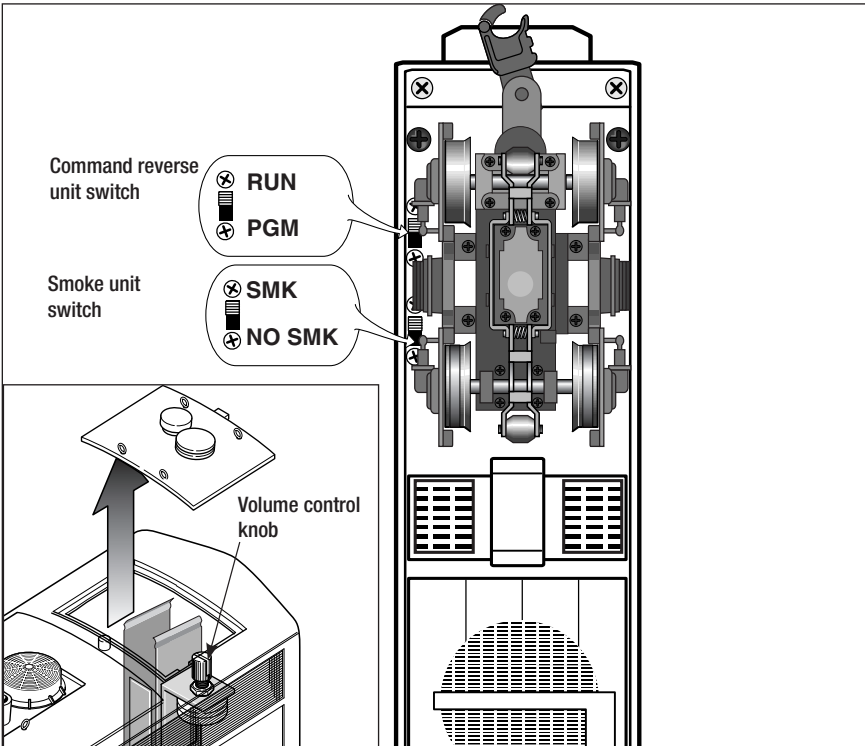

Figure 1. Switch locations
1. Slide the Command reverse unit switch on your locomotive to the PGM position. See Figure 1 on page 5.
If you prefer to operate your locomotive without smoke, locate the smoke unit switch on the underside of the locomotive and slide it to the NO SMK position. Refer to Figure 1 on page 5 for the location of this switch.